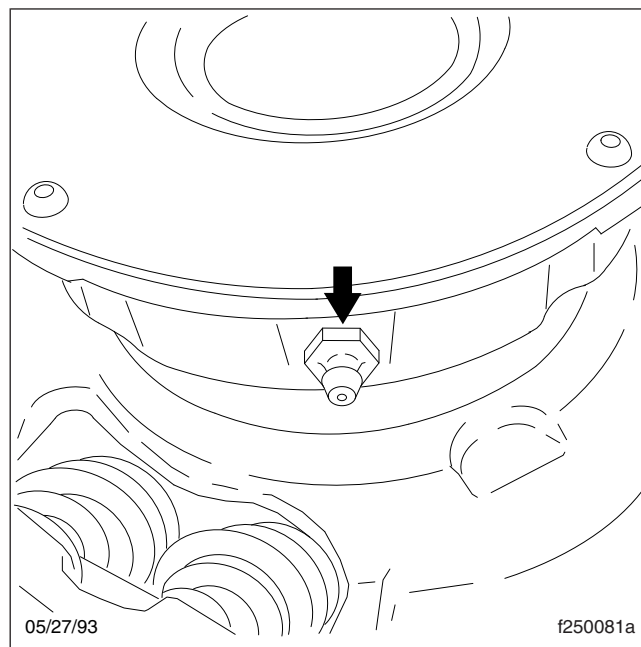

Fig. 2, Release Bearing Grease Fitting
3. Wipe any dirt away from the grease fitting. See Fig. 2. Using a pressure-type grease gun equipped with the recommended grease, lubricate the bearing until excess grease purges from the rear of the release bearing (toward the transmission).
3. Wipe any dirt from the grease fitting. See Fig. 2. Using a pressure-type grease gun equipped with